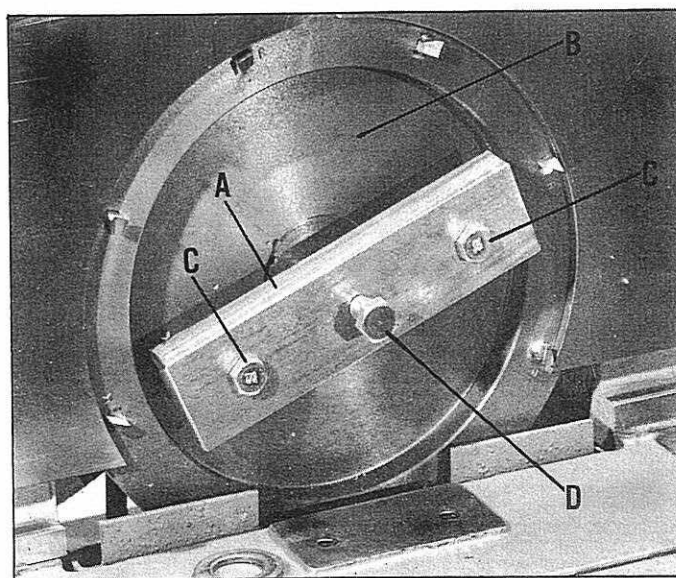

Fig. 28.
6. Assemble the wheel puller (A) Fig. 28, to the cutterhead (B) by inserting two 5/16 - 18 x 1 1/4" Hex Cap Screws (C) through the wheel puller and into the two tapped holes provided in the cutterhead.
7. Insert a 1/2 - 20 x 1 1/2 Hex head cap screw (D), into the center hole in the wheel puller, as shown in Fig. 28, until it bears against the shaft. Turn screw (D) until the cutterhead is free.